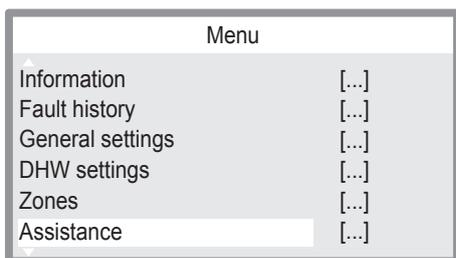

Figure 4.19
- 2 Press key "A" or "B" (Figure 4.17) to select the desired menu (Figure 4.19).